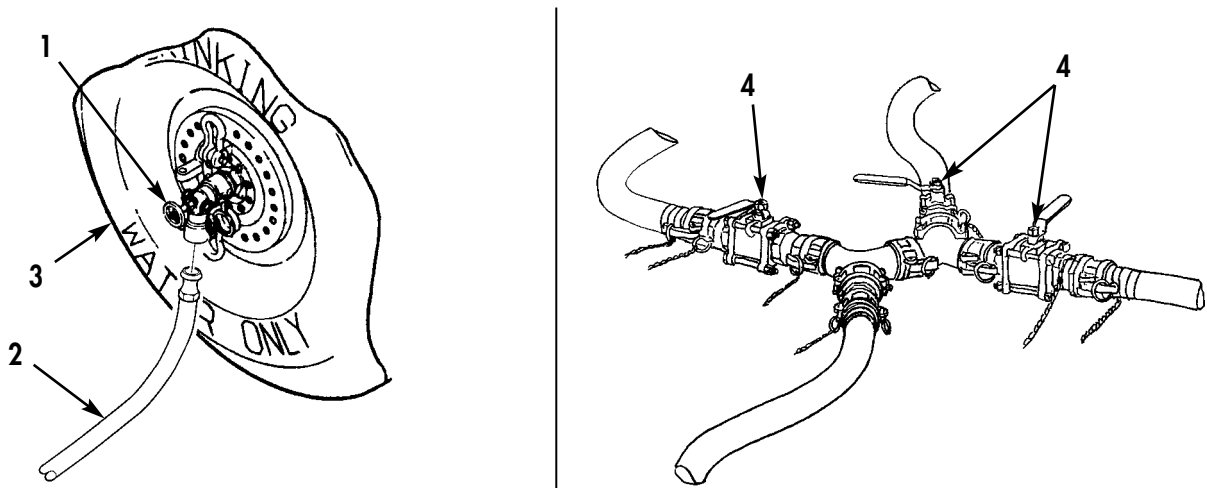

Figure 1. Coupler Valves and Ball Valves.
1. Close coupler valves (Figure 1, Item 1) on three drums (Figure 1, Item 3), and open three ball valves (Figure 1, Item 4). Refer to WP 0004.
3. Disconnect 2 in. (51 mm) DIA x 10 ft (3 m) long suction hose assembly (Figure 1, Item 2) from coupler valve (Figure 1, Item 1) on three drums (Figure 1, Item 3), and install cap on coupling end of each hose assembly (Figure 1, Item 2).